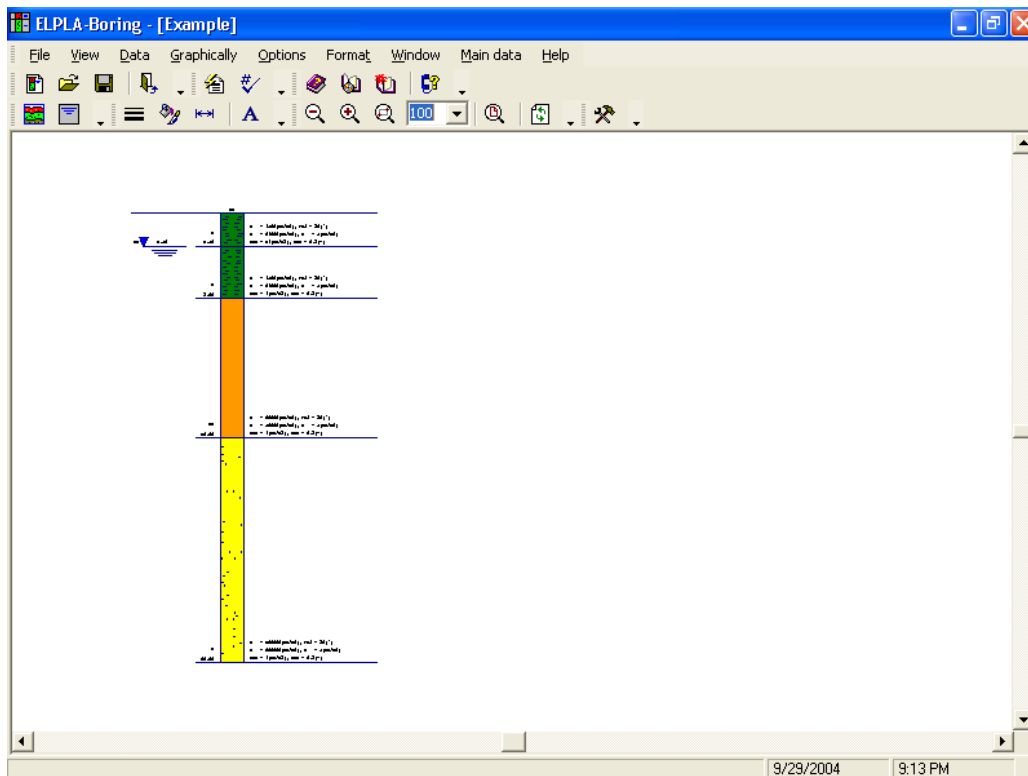
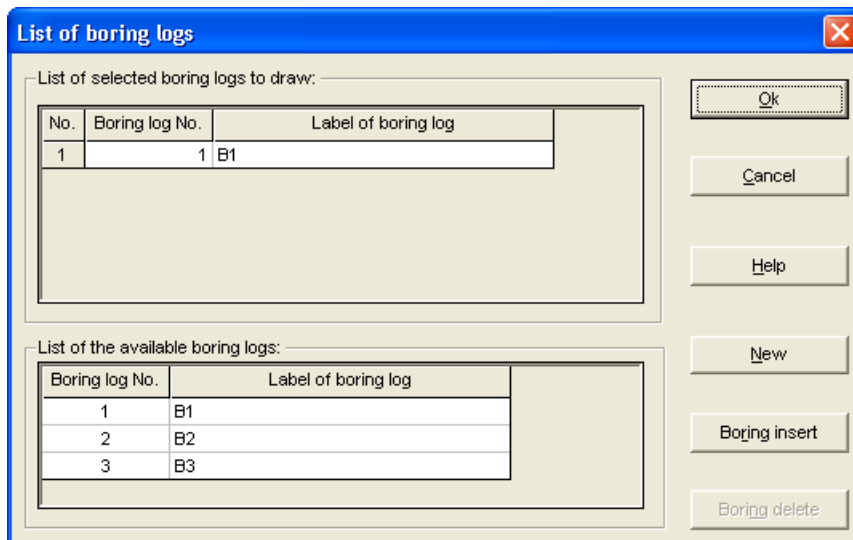

Figure 1-18 First boring log on the screen
Figure 1-19 "List of boring logs" list box
Now, after finishing the creation of boring logs, click "OK" button in "Soil data" dialog box in Figure 1-17 to see the defined boring logs on the screen where the user can control or modify the input data and parameters. As a default plot parameter, *ELPLA* displays only the first boring log on the screen (Figure 1-18).
To display all boring logs or specified boring logs on the screen, choose "Drawing boring logs" command from "Graphically" menu in Figure 1-18. The following list box in Figure 1-19 appears.
- Select the boring log that is required to be displayed from the list of the available boring logs in Figure 1-19
- Click "OK" button in Figure 1-19. The selected boring logs appear on the screen to control or modify the boring data graphically, Figure 1-20